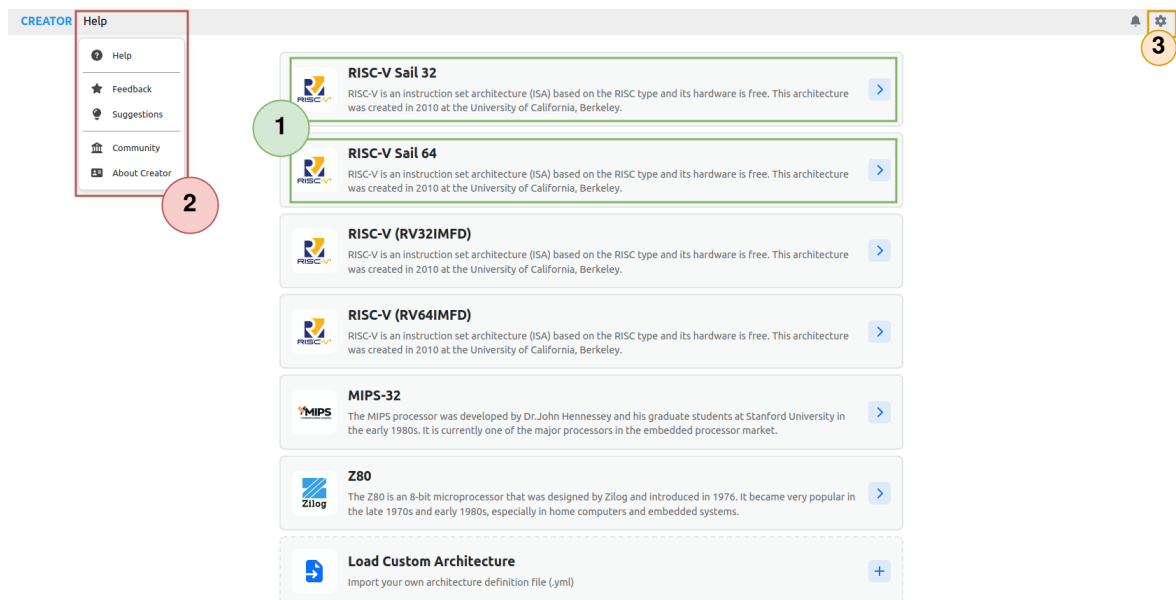

Figure 36: Simulator home page
The simulator's home page lists the available architectures for simulation, as shown in Figure 36.
Once the simulator is configured through the modules presented, it proceeds to select the architecture, as shown in the highlighted area **1** of Figure 36, and accesses the simulation module.
2. Simulator navigation bar: allows you to navigate the simulator's views and elements. In the *View* section, you can navigate to the code editing module or the architecture information module; the *Tools* section allows you to load examples of the architecture, use the calculator, or use the remote service to flash on a microcontroller; and the *Help* section, as shown in Figure 36, allows you to access the simulator's help and contact module.